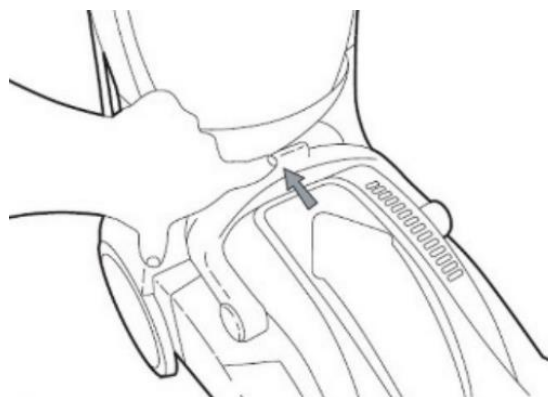

Fig. 5
1. When you have finished cleaning, or when the dirty water tank is full, remove the dirty water tank by pressing the release tab behind the handle [Fig. 5]